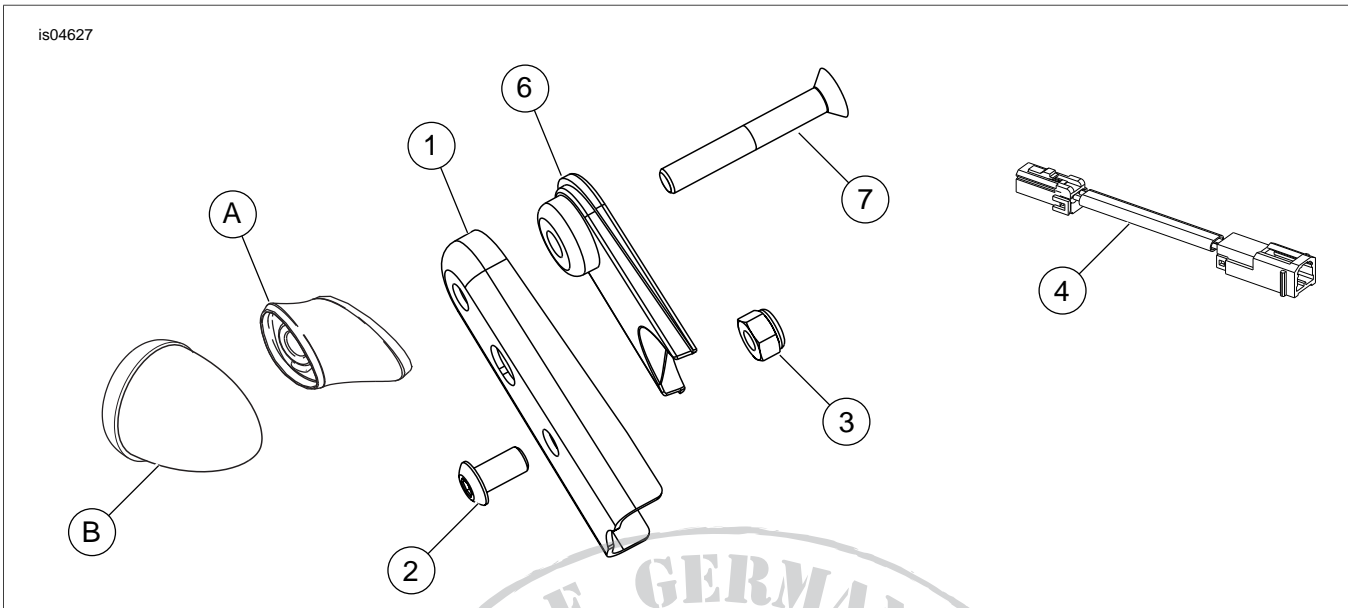

Figure 7. Service Parts: Turn Signal Relocation Kit
See Figure 7 and Table 1.
5. See Figure 7. Pull turn signal (B) and turn signal mount (A) away from fender support.
2. See Figure 7. Insert stock screw and washer through rear hole of relocation bracket (1) and turn signal mount (A).
3. Thread screw into turn signal (B). Tighten to 12-16 ft-lbs (16.3-21.7 Nm).
4. Align relocation bracket (1) with rear of fender support and install with screw (2) and nut (3) from kit. Tighten nut to 12-16 ft-lbs (16.3-21.7 Nm).
6. See Figure 7. Connect pin housing of harness extension (4) into turn signal connector. Then connect socket housing of harness extension into appropriate connector in circuit board.